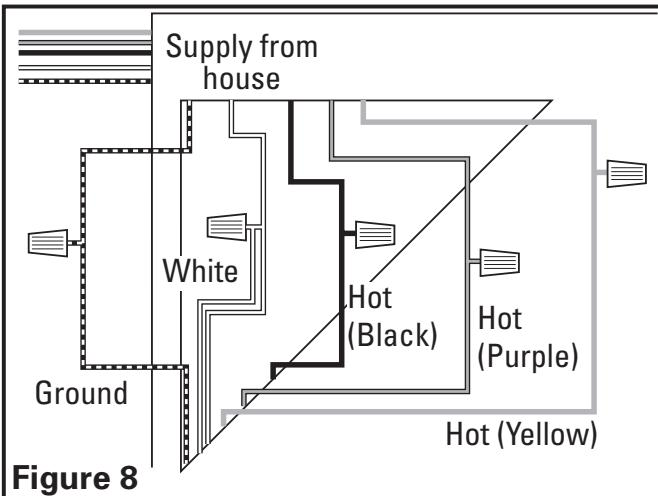

Figure 8
- From where you have chosen to access the fan's junction box, connect the White wire from the house to the two White wires from the fan. Connect one Hot (Black) wire from the wall switch to the Black wire from the fan (this is the fan control). Connect second Hot (Purple) wire from the wall switch to the Purple wire from the fan (this is the main light control). Connect the third Hot (Yellow) wire from the wall switch to the Yellow wire from the fan (this is the night light control). Connect the ground wire from the house to the Green wire from the fan (**Figure 8**). Use approved methods for all connections.